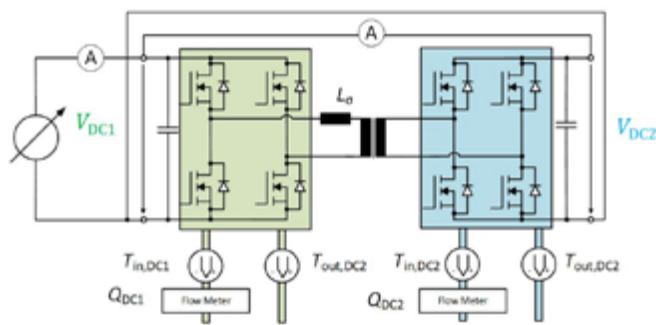

Figure 6: Measurement setup for 1:1 operation with calorimetric measurement
In order to measure the semiconductor losses a calorimetric measurement system for the DC1 and DC2 side full bridge is implemented. The inlet temperature  $T_{in}$  and outlet temperature  $T_{out}$  as well as the water flow rate  $Q$  in each full-bridge cooling plate is measured separately. With the heat capacity  $C_p$  and the density of water  $\rho$ , the losses for all full-bridge switches can be calculated according to (5) [10]. The overall measurement setup is shown in Figure 6. DC-DC converter input and output are connected and supplied by one power supply. The power drawn by the power supply corresponds to the losses of the DC-DC converter. Hence, accurate power loss measurement of the DC-DC converter is possible. The calorimetric measurement enables further break down between DC1- and DC2-side power module losses and transformer losses.
The experimental results are obtained on the hardware setup previously described and as depicted in Figure 6. For these measurements only transfer ratio of one ( $V_{DC1} = V_{DC2}$ ) is investigated. The specifications of the prototype are given in Table 1. Measurements were done up to  $P_{out} = 504 \text{ kW}$  and up to  $V_{DC} = 800 \text{ V}$  to evaluate the performance. A full analysis of the DAB is done in [11].